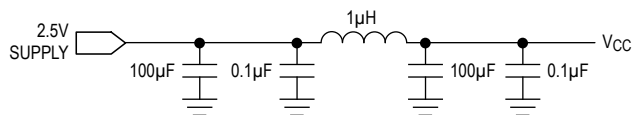

Figure 1. Recommended Supply Filtering
(Typical values are at  $V_{CCR} = V_{CCT} = V_{CCP} = 2.5V$ ,  $T_A = +25^\circ C$ . See Figure 1 for typical supply filtering.) (Note 2)
**Electrical Characteristics (continued)**(Typical values are at  $V_{CCR} = V_{CCT} = V_{CCP} = 2.5V$ ,  $T_A = +25^{\circ}C$ . See Figure 1 for typical supply filtering.) (Note 2)
(Typical values are at  $V_{CCR} = V_{CCT} = V_{CCP} = 2.5V$ ,  $T_A = +25^{\circ}C$ . See Figure 1 for typical supply filtering.) (Note 2)